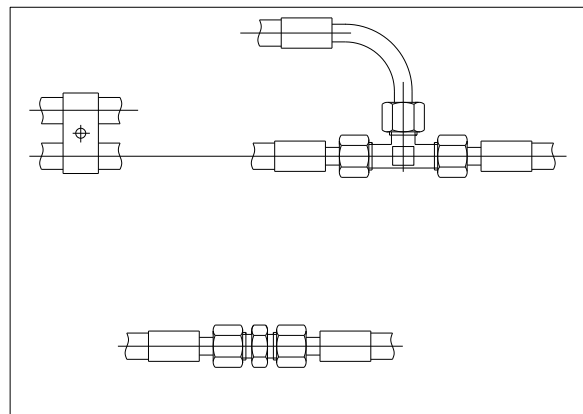

Fig. 35
- ◆ Connect the long hose inside both columns according to **Fig. 35**, tighten (upside connect to main column and the down side connect with sub-column), and then fix the oil pipe by using clip.